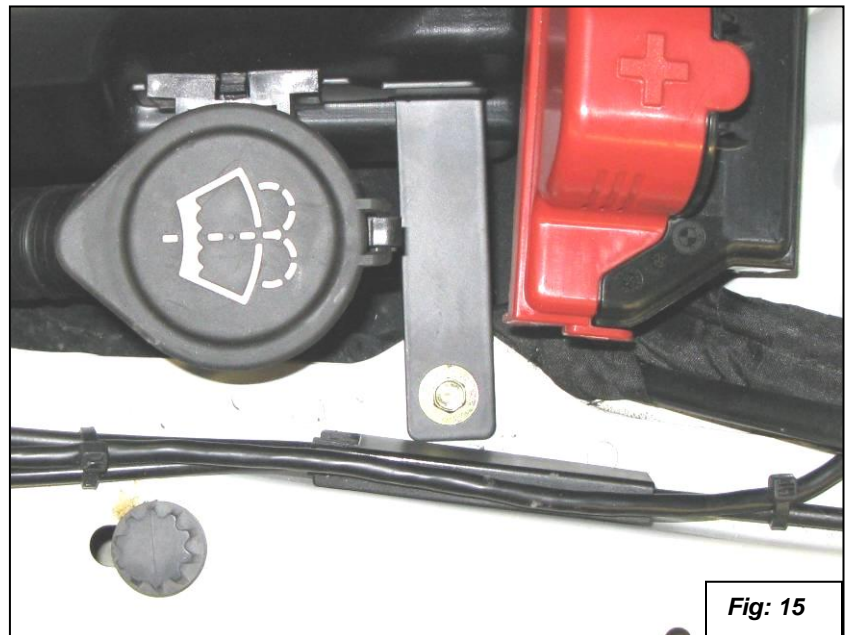

Fig: 15
19. Install the bracket to hold the filler for the windshield washer bottle as shown in figure 15. Fasten with the supplied screw.